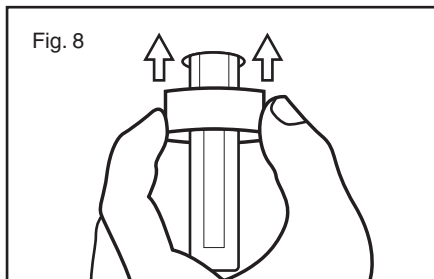

Fig. 8
9. Remove the adhesive liner from the plastic support ring and slide it over the support shaft and push it up until it sticks to the underside of the countertop. (Figure 8)